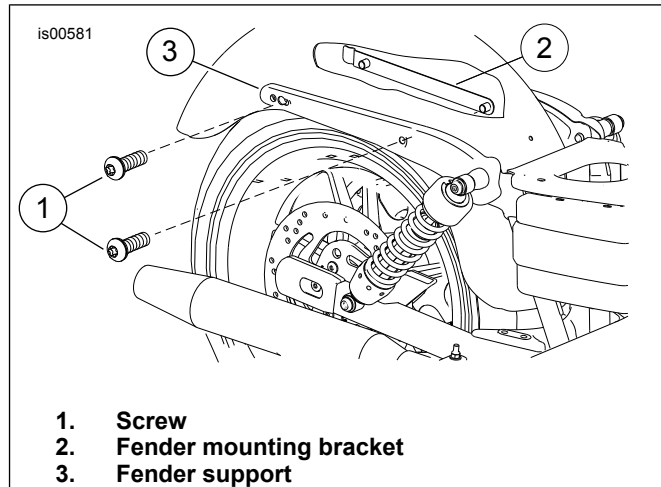

Figure 3. Models without Detachable Accessories
- For all models: See Figure 3. Work on one side of the vehicle at a time. Remove and discard stock fender mounting screw (1) and stock fender mounting bracket (2) from fender support (3).